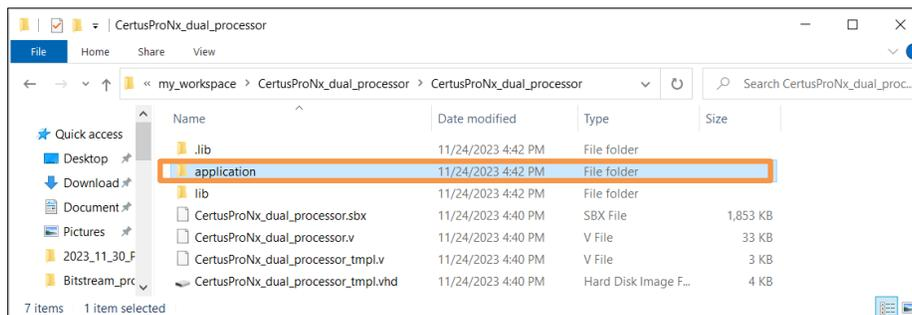

Figure 5.10. Application Folder in Source Project
- e. For some templates, there is an application folder inside the project directory (Figure 5.10). This folder is used for creating C project in Propel SDK. Copy it from the source project. The path is `<workspace>/<project_dir>/<project_name>/application`.